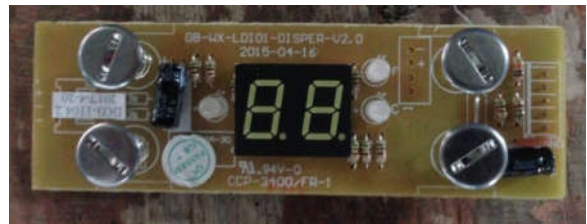

Figure 18
7. The display board is like below. (figure 18)